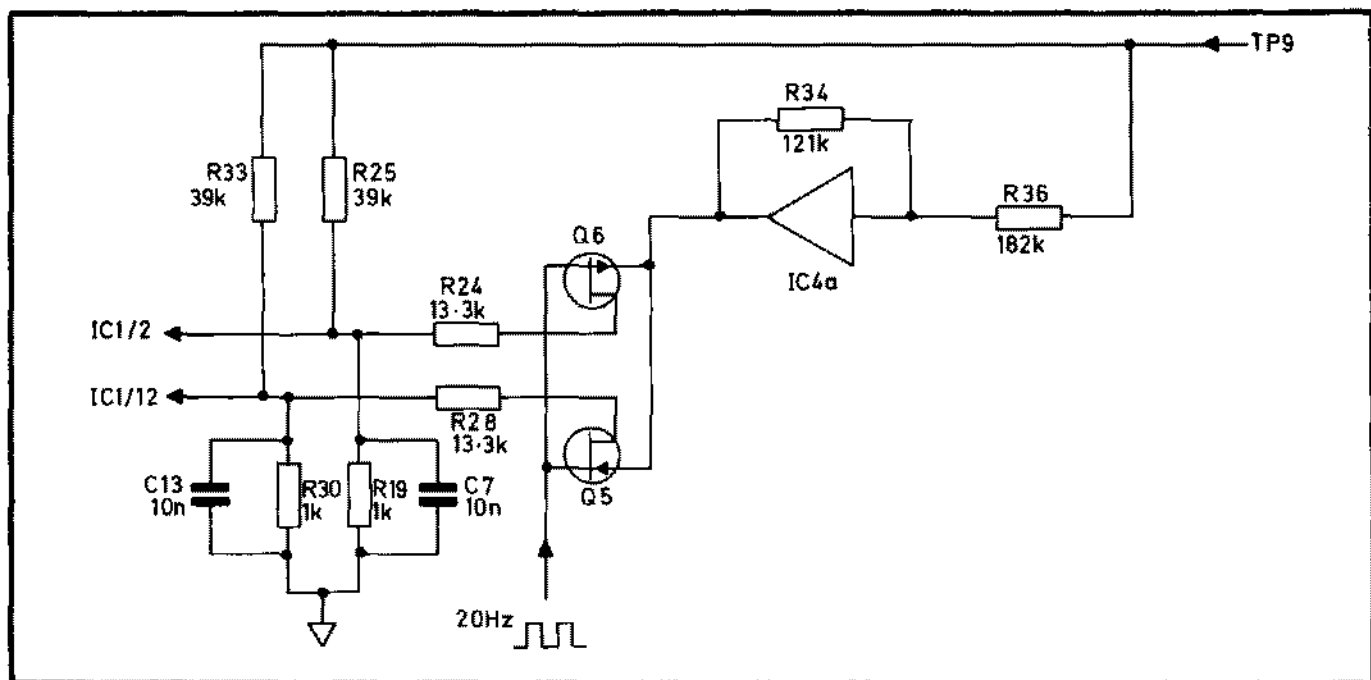

Fig. 5.5 Feedback Switching
- 5.3.1.8.7 The output of IC4b is fed back to the input of the multiplier at IC1/2 and IC1/12. The feedback circuit is shown in Fig. 5.5.